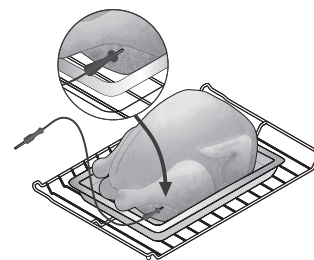

Figure 31: Probe in thickest part of thigh
- For whole poultry or turkey, fully insert the probe sensor into the thickest part of inner thigh, just below the leg (See Figure 31).